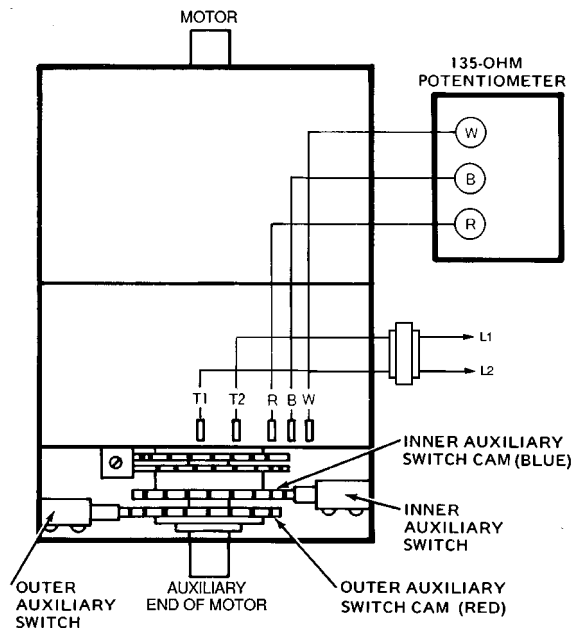

Fig. 60 — Auxiliary Switch Stroke Adjustment
2. Disconnect controller from motor. Connect RED, WHITE, and BLUE terminals on the 135-ohm manual potentiometer to corresponding RED, WHITE, and BLUE terminals on the motor. Connect 24-vac power to Terminals 1 and 2. See Fig. 60.